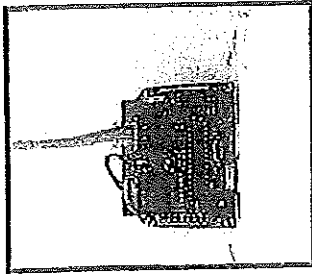
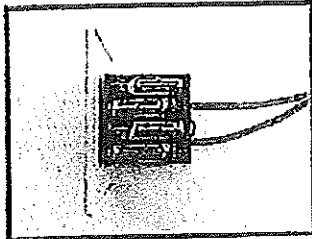

Figure 53: Wall switch - interface side.
Figure 54: Wall switch - battery side.
3. Wall mounted Remote Control Receiver Figure 53, Figure 54 and Figure 55.
1. With the fireplace main circuit breaker in the OFF position, install 4 AA batteries into the Town & Country wall switch battery holder (Figure 54) located behind the wall switch face plate (Figure 55). Make sure that the selection switch is on the "Remote" setting.